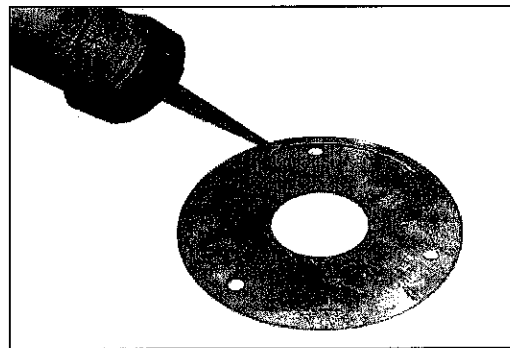

fig. 20
- Apply a fine strip of silicone around the outside edge of the new V-ring plate. (fig. 20).